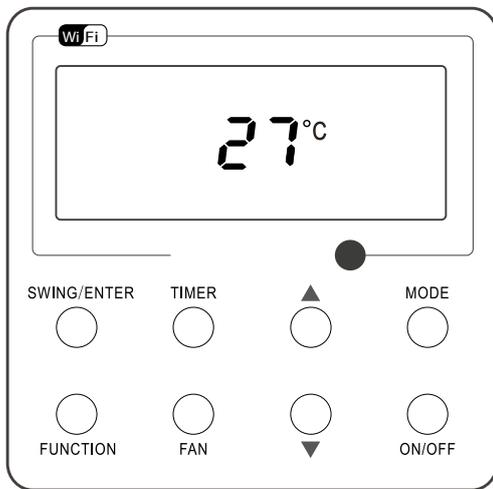

Fig. 4 "OFF" State
■ Note: The state shown in Fig.4 indicates the "OFF" state of the unit after power off. The state shown in Fig.5 indicates the "ON" state of the unit after power on.